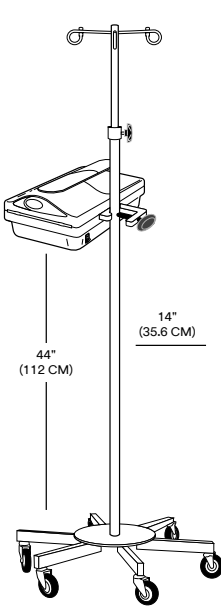

Figure 3
- Attach the Ranger blood/fluid warming unit to the I.V. pole. Tighten the pole clamp securely (see Figure 3).